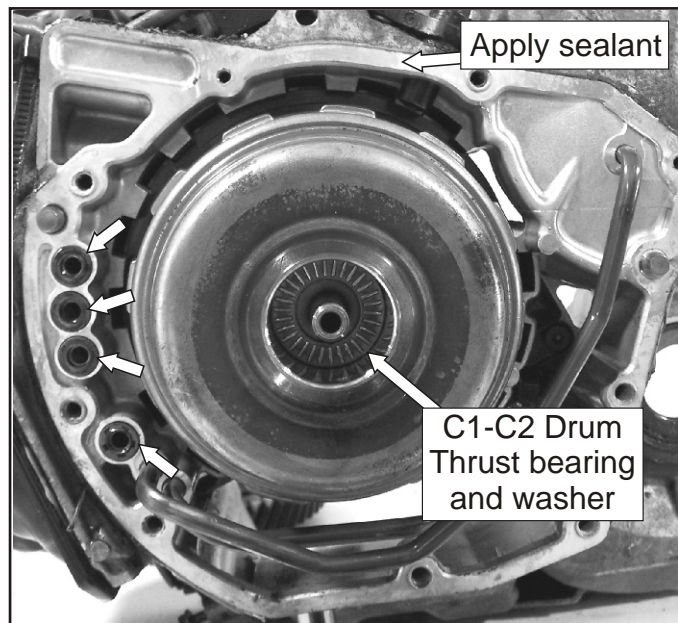

Figure 248
- 176. Carefully, take the C1/C2 drum and slide it into the planetary assembly turning it slightly. **Note: Do this with the case half standing up on the bench.** Install the C1/C2 thrust washer and bearing into the rear of the drum. Apply a thin coat of sealant to the surface where the rear cover mating surface is. Replace the four rubber seals in the case half. See Figure 248.